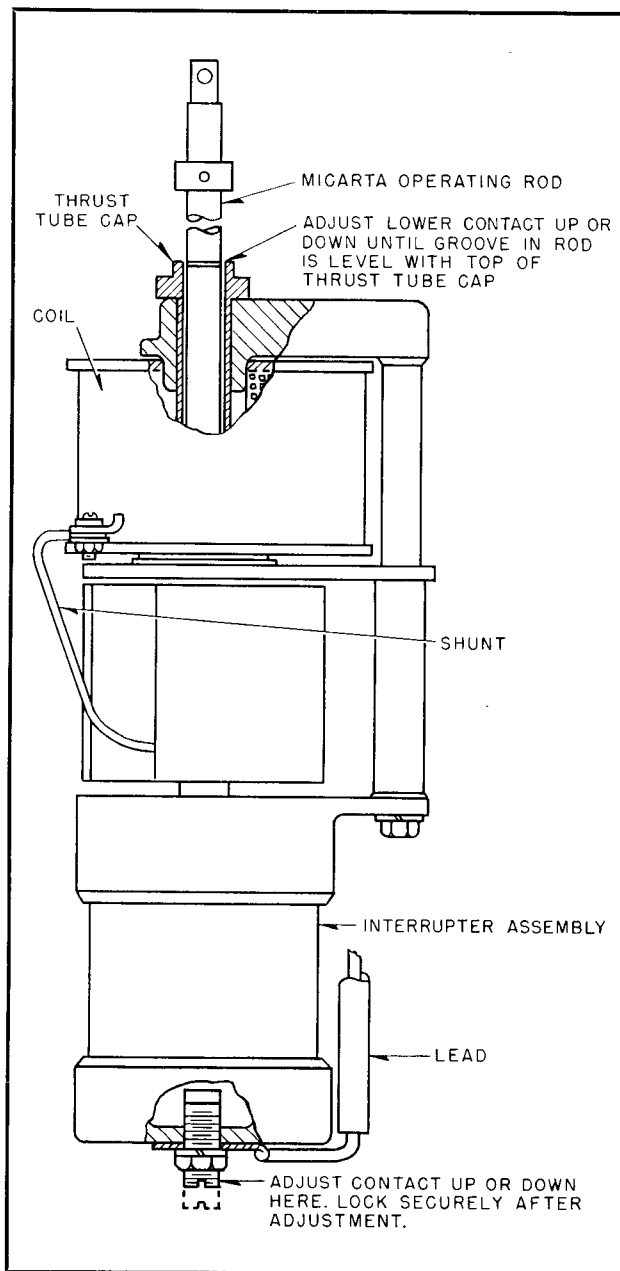

FIG. 8. Adjustment of Fixed Contact
**Contact Adjustment.** The fixed contact should be moved up or down until the groove on the Micarta operating rod extension is level with the top of the thrust tube cap. (See Fig. 8). This adjusts the recloser for correct position and contact pressure.
10. Adjust the position of the fixed contact as described in Fig. 8.